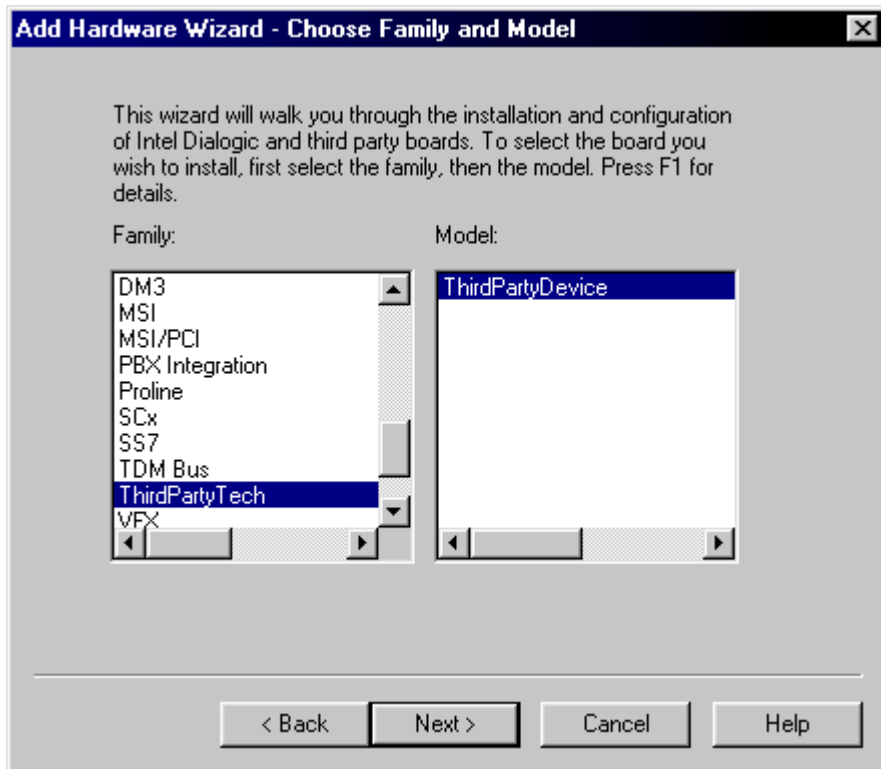

Figure 22. Add Hardware Wizard for Third Party Devices
2. At the first Add Hardware Wizard screen, select **ThirdPartyTech** from the list of device families (as shown in Figure 22). Then click **Next**.